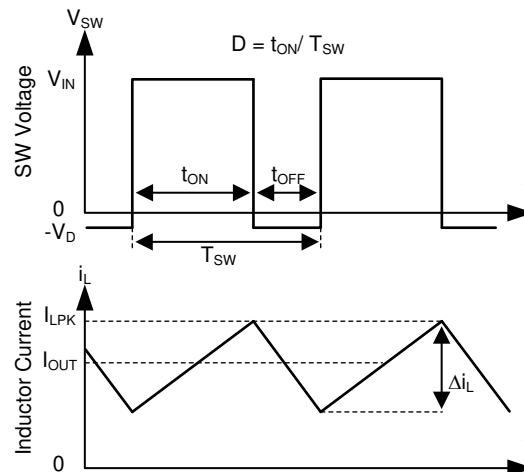

FIG 10-1. SW Node and Inductor Current Waveforms in Continuous Conduction Mode (CCM)
The following operating description of the TPS25830-Q1, TPS25831-Q1 will refer to the Functional Block Diagram and to the waveforms in Figure 10-1. TPS2583x-Q1 is a step-down synchronous buck regulator with integrated high-side (HS) and low-side (LS) switches (synchronous rectifier). The TPS2583x-Q1 supplies a regulated output voltage by turning on the HS and LS NMOS switches with controlled duty cycle. During high-side switch ON time, the SW pin voltage swings up to approximately V_{IN} , and the inductor current i_L increase with linear slope $(V_{IN} - V_{OUT}) / L$. When the HS switch is turned off by the control logic, the LS switch is turned on after an anti-shoot-through dead time. Inductor current discharges through the LS switch with a slope of $-V_{OUT} / L$. The control parameter of a buck converter is defined as Duty Cycle $D = t_{ON} / T_{SW}$, where t_{ON} is the high-side switch ON time and T_{SW} is the switching period. The regulator control loop maintains a constant output voltage by adjusting the duty cycle D . In an ideal buck converter, where losses are ignored, D is proportional to the output voltage and inversely proportional to the input voltage: $D = V_{OUT} / V_{IN}$.